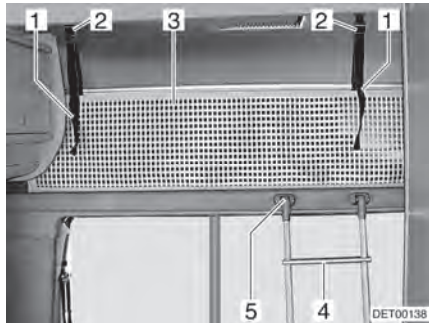

Fig. 70 Overcab bed
Always use the access ladder (Fig. 70,4) provided as standard to access the overcab bed.
- Attach the ladder with the rails to the holder (Fig. 70,5) on the alcove panel.
The safety net (Fig. 70,3) is stored as standard between the mattress and slatted frame. Only use the safety net if persons are already in the alcove.
- Let the retaining straps (Fig. 70,1) snap into the holders (Fig. 70,2) on the ceiling.